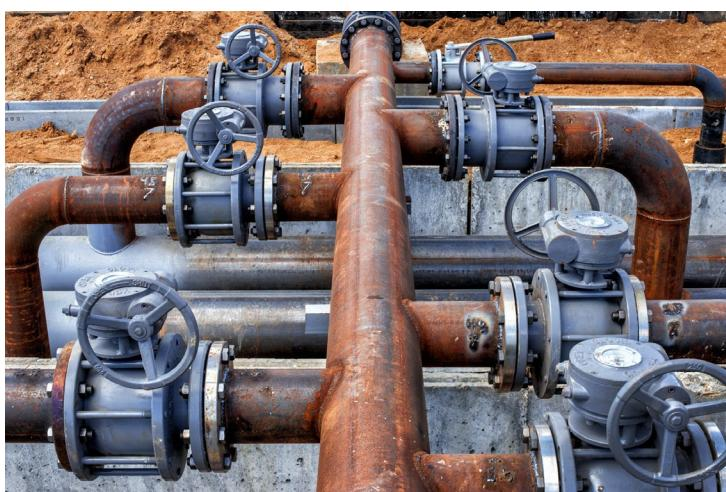

Figure 4(b)/ Rajah 4(b)
- (b) Figure 4(b) shows the corrosion occurring which damaging the pipeline in the industry.
- i. Elaborate **ONE (1)** type of corrosion that can occur in Figure 4 (b).
*Huraikan **SATU (1)** jenis kakisan yang boleh berlaku pada Rajah 4 (b).*